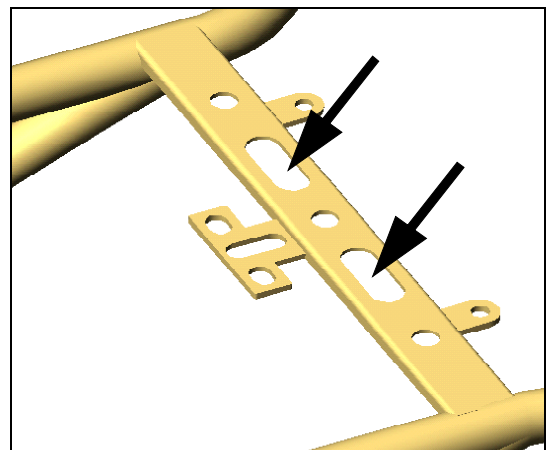

Figure 6
- c. Drill holes in plastic fender through cross brace at locations indicated and secure fender to cross with zip ties. Figure 6